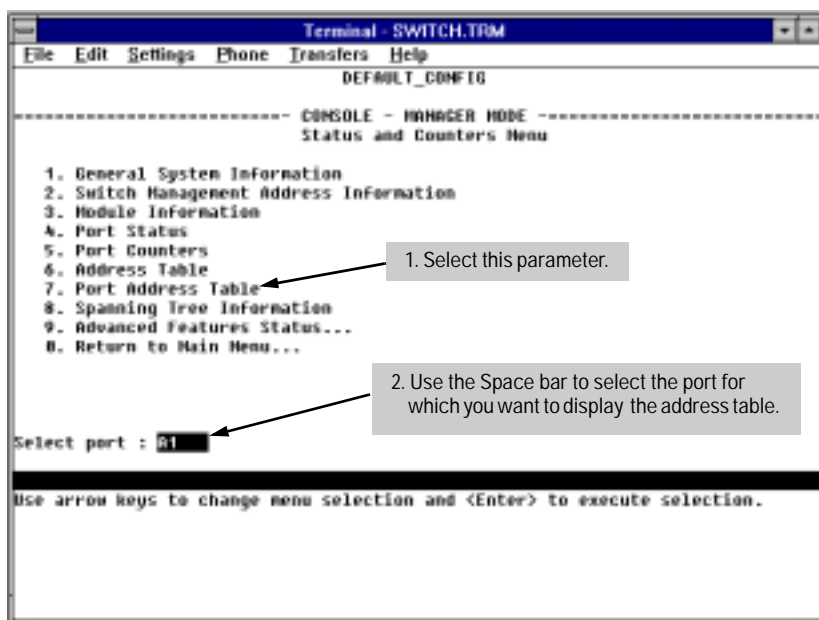

Figure 7-11. Example of How To Access the Port Address Table
2. When the `port` prompt appears, press the Space bar or type the port name to display the port you want to examine, then press `[Enter]`. (See figure 7-11, above.)